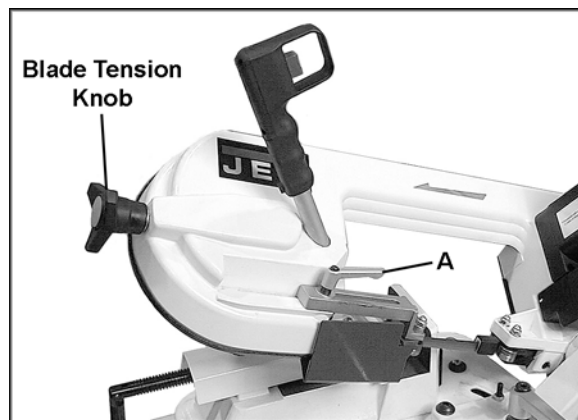
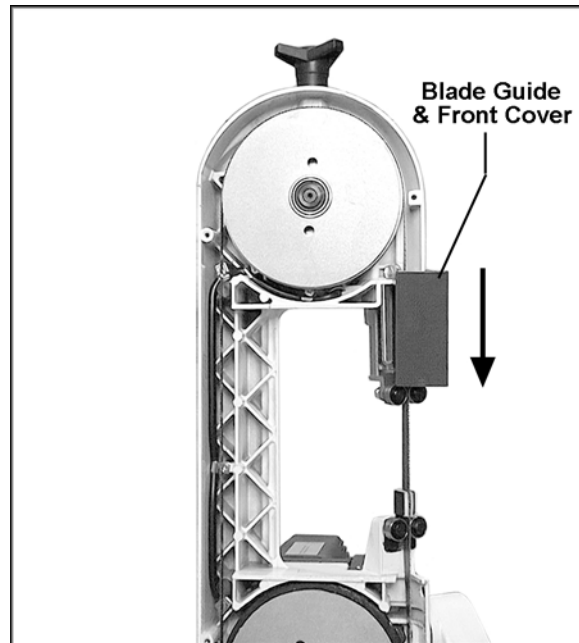

Figure 10
Figure 12
Rotate the knob (Figure 10) clockwise to tighten the blade on the wheels. Do not overtighten.
3. Loosen the handle (A, Figure 10) and lower the blade guide and front cover (Figure 12) as far as possible.
5. Release the blade tension by turning the blade tension knob (Figure 10) counter-clockwise.